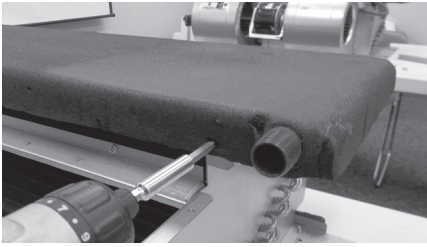

Fig. 19 - Removing Condensate Pan
2. Remove the four screws located near the corners. (See Fig. 19)